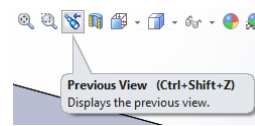

Fig3
- The Previous View tool returns to the preceding view (Fig3).